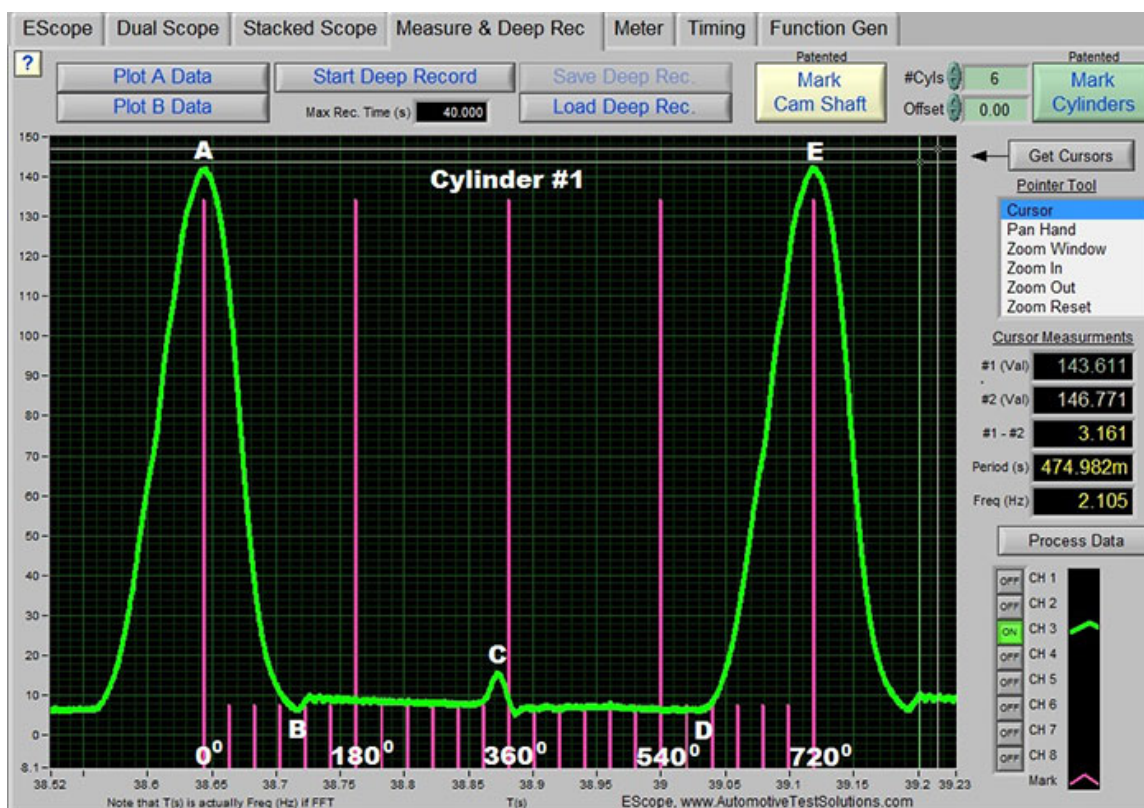

Fig. 6
Now let's look at another vehicle — a Hyundai XG 350 with a V6 3.5 Liter DOHC engine. This engine cranks and tries to start but fails to run. In Figure 6, cylinder No. 1 from bank 1 is shown. Points A and E are the TDC positions. By marking these two positions, which represents one fire cycle or 720 degrees of crankshaft rotation, you can now divide this waveform into segments. These segments can represent the four strokes of the internal combustion engine or be divided into the number of cylinders the engine you are working on has. If your scope does not automatically mark these segments, then this can be accomplished on your scope by simply marking the compression waveform with the scope cursors. Now look at the time given by the scope for the time between the cursors, then take the time and multiply it by .25 = 180; .50 = 360; .75 = 540. So in Figure 6, take the time shown on the right in the period (S) display, which is 474ms, and multiply this to set your TDC and BDC locations. So in this example: $474\text{ms} \times .25 = 118.5\text{ms}$ BDC; $474\text{ms} \times .50 = 237\text{ms}$ TDC; $474\text{ms} \times .75 = 355.5\text{ms}$ BDC. This will provide the time to move your right-side cursor to so you can mark the stroke of the engine. In moving the right-side cursor, the TDC and BDC mark can be identified. Whether you mark the four strokes of the engine or mark the number of cylinders, this is a very important technique, as you clearly see on this Hyundai.
Now let's look at Figure 6 taken from cylinder No. 1. Point B is where the exhaust valve opening is located at 70 degrees before BDC. While cranking the engine, this exhaust valve opening position should fall between 30 degrees to 60 degrees before BDC. So at 70 degrees, this exhaust valve opening is clearly in an advanced position. Now look at point C. The pressure increases as the piston nears the TDC position. At 15 degrees before TDC, the pressure tops out and then quickly drops, due to the intake valve opening. If the exhaust valve opens too early, it will also close too early. When the exhaust valve closes early, the volume that is still contained in the cylinder will be trapped. As the piston continues to move upward, the trapped volume is compressed, thus increasing the in-cylinder pressure. At point D the intake valve is closing. This can be seen at the point the pressure starts to increase at some 50 degrees of crankshaft rotation. From point D to point E, the volume within the cylinder is compressed, thus increasing the in-cylinder pressure. It is interesting to note that the rising pressure is not smooth, but has slight changes in it. Additionally the compression tower has a slight lean to it. This can be seen by looking at the pink TDC marker and comparing the rising and falling pressure. The falling pressure is closer to the marker than the rising pressure. These two pressures should be within 20 degrees from one another, or should look even from the TDC marker on a cranking compression waveform.